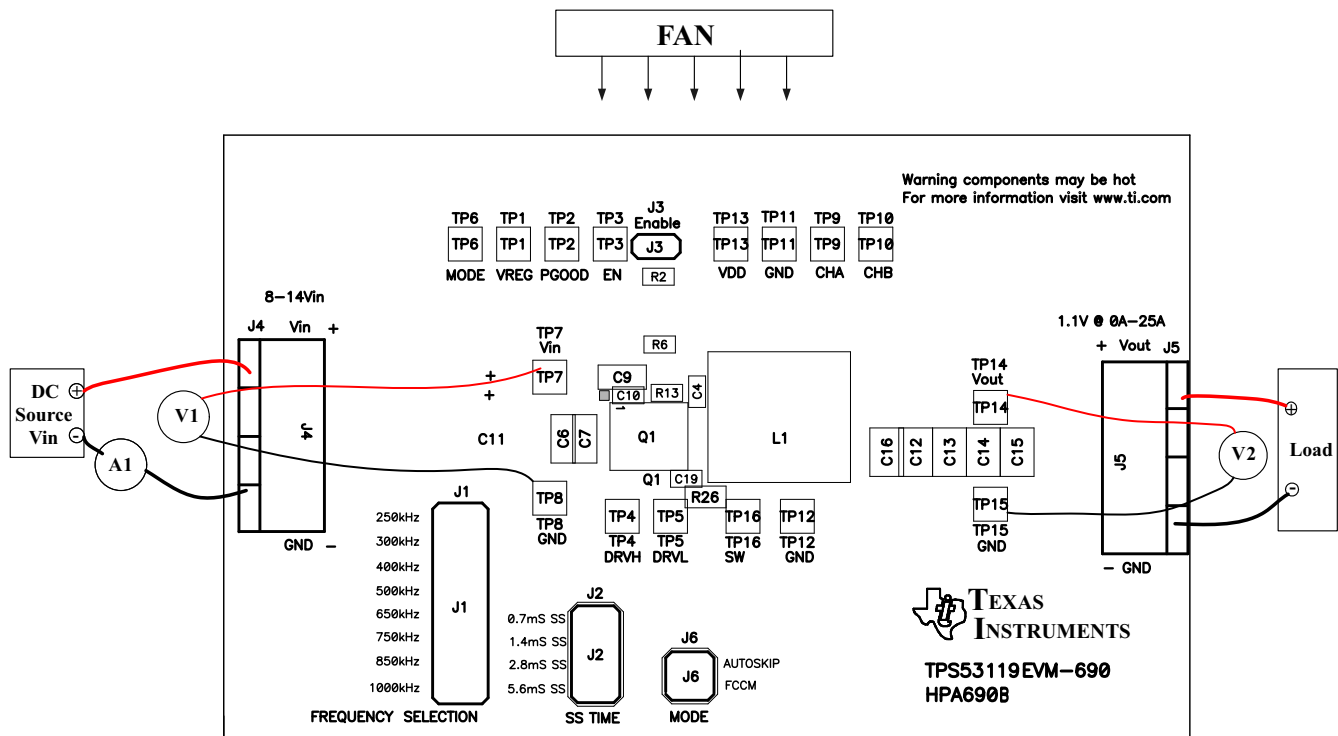

Figure 3. TPS53119EVM-690 Recommended Test Setup
**Voltage Source:** The input voltage source  $V_{IN}$  must be a 0-V to 14-V variable dc source capable of supplying 10 Adc. Connect  $V_{in}$  to J4 as shown in Figure 3.
Figure 3 is the recommended test setup to evaluate the TPS53119EVM-690. Working at an ESD workstation, make sure that any wrist straps, bootstraps, or mats are connected referencing the user to earth ground before power is applied to the EVM.
1. Prior to connecting the dc input source  $V_{IN}$ , it is advisable to limit the source current from  $V_{IN}$  to 10 A maximum. Ensure that  $V_{IN}$  is initially set to 0 V and connected as shown in Figure 3.
Place a fan as shown in Figure 3 and turn it on, ensuring that air is flowing across the EVM.
1. Set up EVM as described in Section 5 and Figure 3.